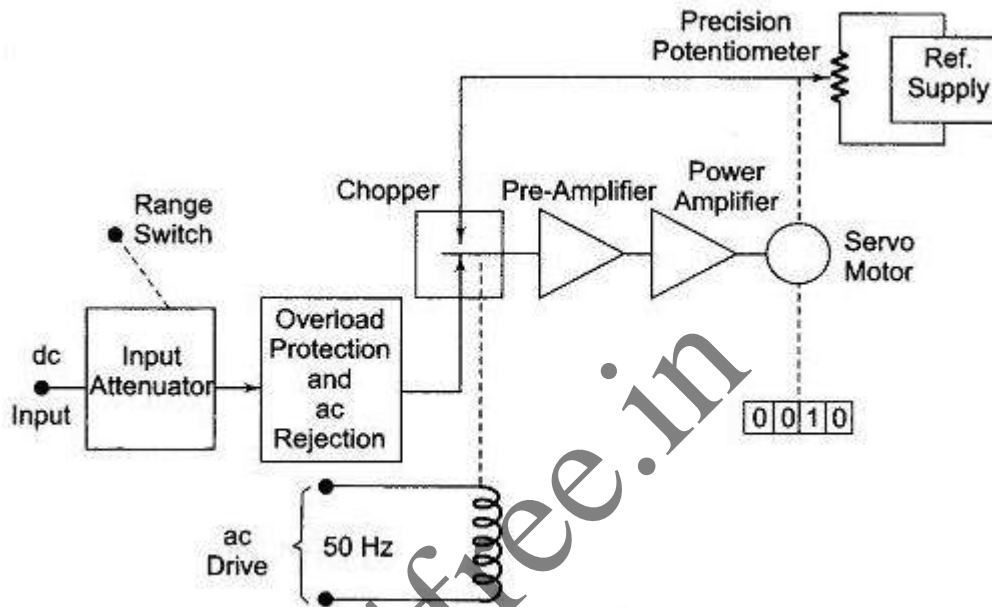

Fig. 2.5 Block Diagram of a Servo Balancing Potentiometer Type DVM
- The block diagram of Continuous Balance Voltmeter is shown in Fig. 2.5.